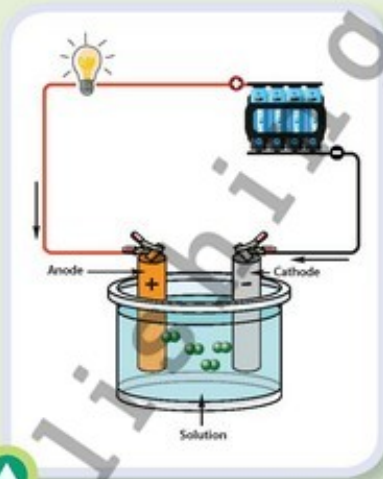

Figure 1.2
- Set up the equipment to test for electrolytes as shown in **Figure 1.2**.